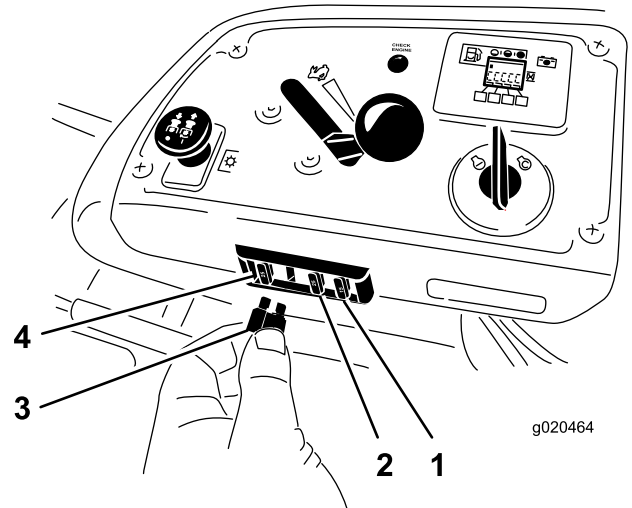

Figure 65
1. The fuses are located on right console next to the seat (Figure 65).
3. Install a new fuse (Figure 65).